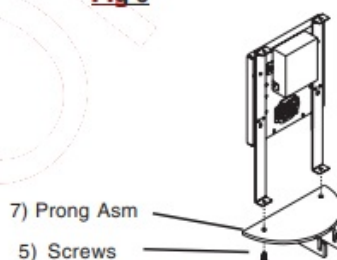

Fig 7
3. DLSD7, DLSD8, DLSD9 & DLSD17- Align holes in Prong Assembly (7) with holes in bottom of mountin brackets and secure with Screws (5) See Fig 7.